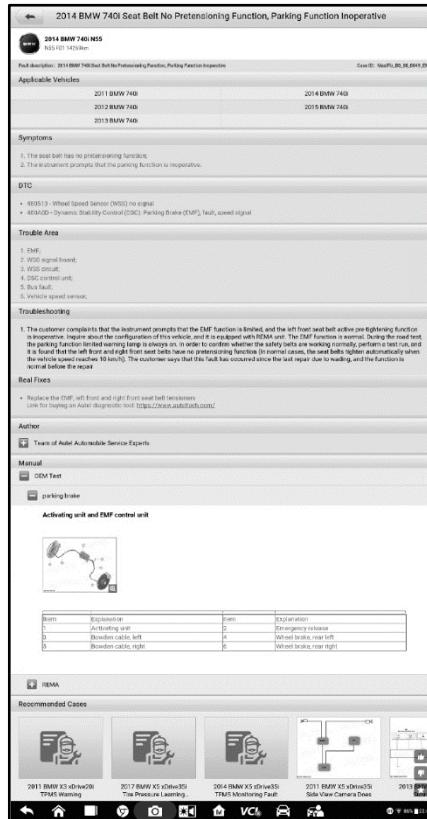

Figure 7-5 Sample Real Fixes Page 2
7. Press one entry of them and enter the real fix page with diagnostic description in detail (Figure 7-5).